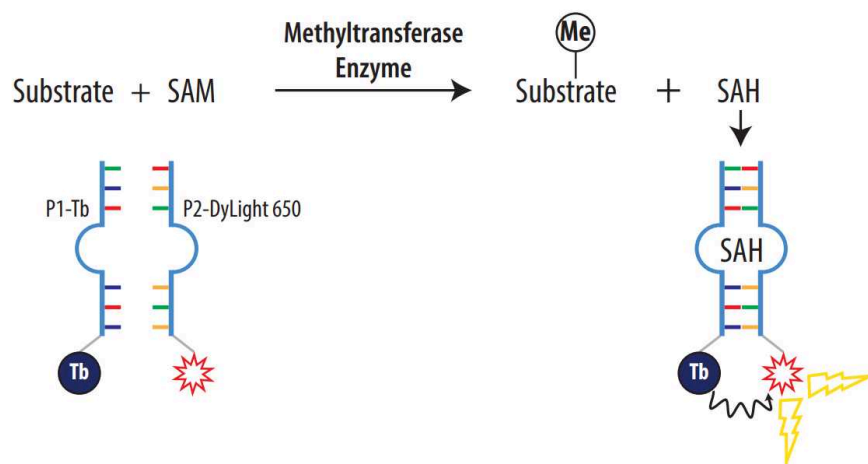

Figure 1. Schematic overview of the AptaFluor SAH Methyltransferase TR-FRET Assay.
The AptaFluor SAH Methyltransferase TR-FRET Assay is a universal assay for enzymes that convert S-adenosylmethionine (SAM) to S-adenosylhomocysteine (SAH), with a far-red, time-resolved Förster resonance-energy-transfer (TR-FRET) readout. The assay can be used for all enzymes within the histone methyltransferase (HMT) and DNA methyltransferase (DNMT) families (**Figure 1**).
Figure 1. Schematic overview of the AptaFluor SAH Methyltransferase TR-FRET Assay. The detection reagents contain two halves of an SAH-binding RNA aptamer. One half is labeled with a terbium chelate and the other with DyLight™ 650. In the presence of SAH, the split aptamer reassembles to generate a TR-FRET signal.
- 1 The AptaFluor SAH Methyltransferase TR-FRET Assay is a universal assay for enzymes that convert *S*-adenosylmethionine (SAM) to *S*-adenosylhomocysteine (SAH), with a far-red, time-resolved Förster resonance-energy-transfer (TR-FRET) readout. The assay can be used for all enzymes within the histone methyltransferase (HMT) and DNA methyltransferase (DNMT) families (**Figure 1**).